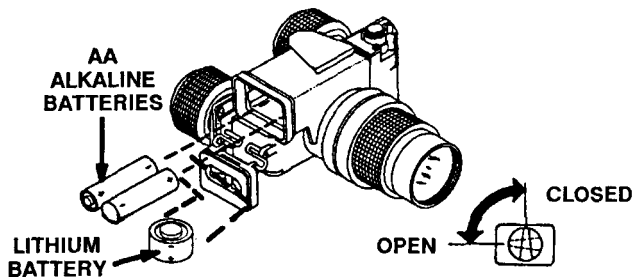

Figure 3-1. Battery Replacement.
(1) Open the battery compartment hatch by turning the locking tab quarter turn counterclockwise, Remove the two used batteries. (Batteries must be disposed in accordance with DLSC Handbook 41601 and TB 43-0134 Battery Disposition/Disposal Handbook).
(2) Insert two known good AA batteries (item 2, Section II, Appendix D) into the holder, one positive end and one negative end first, as shown in Figure 3-1.
(3) Close the hatch and secure by turning the locking tab a quarter turn clockwise.
(1) Open the battery hatch by turning the locking tab quarter turn counterclockwise, Remove the old battery. (Lithium batteries must be handled in accordance with TB 43-0130 Instructions For The Safe Handling and Identification of U.S. Army Communications-Electronics Command Managed Lithium Sulfur Dioxide Batteries and TB 43-0134 Battery Disposition/Disposal Handbook).
(2) Insert one known good battery (item 1, Section II, Appendix D) with the button (negative end) up, into the holder as shown in Figure 3-1.